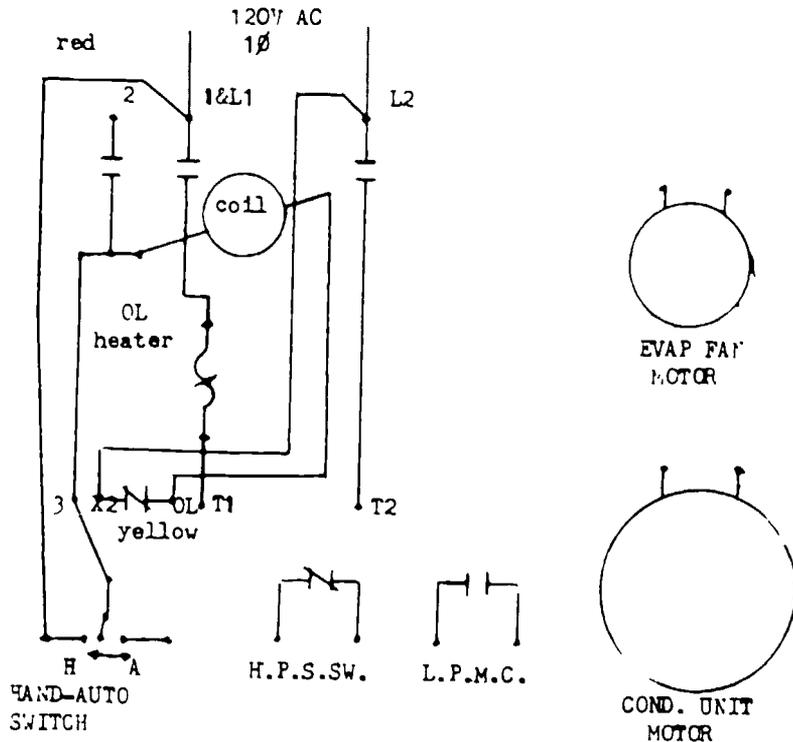

Figure 5. Low-Pressure Motor Control Wired through Holding Coil
1. Using the incomplete wiring diagram in figure 5, wire a low-pressure motor control into the electrical circuit, complete the diagram by drawing in the connecting wires.